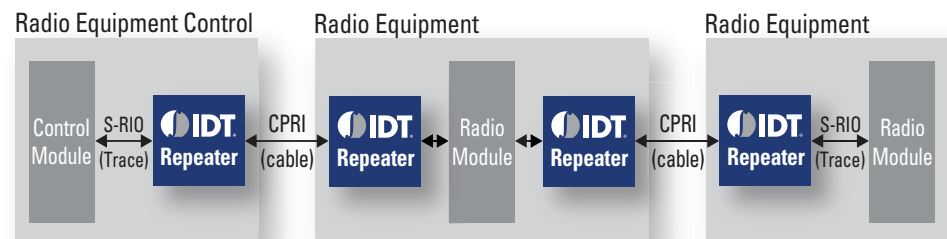

Figure 24: CPRI Application
Public radio transmission stations contain Radio Equipment (RE) with RF front end circuits that need to communicate with Radio Equipment Controllers (REC). The connection between these two systems is typically established via an optical CPRI link. There are different topologies linking one or more REC with one or more RE units: single or multiple point-to-point, ring, tree, and chain. In each case, if the connection lengths between the systems are less than 15 meters, IDT 6.25Gbps Repeaters can be used to enable the use of low cost copper cables in place of expensive optical fiber cables. IDT 6.25Gbps Repeaters placed at cable connectors ensure that received CPRI signals exceed minimum receiver specifications and minimize bit error rates. See Figure 24.